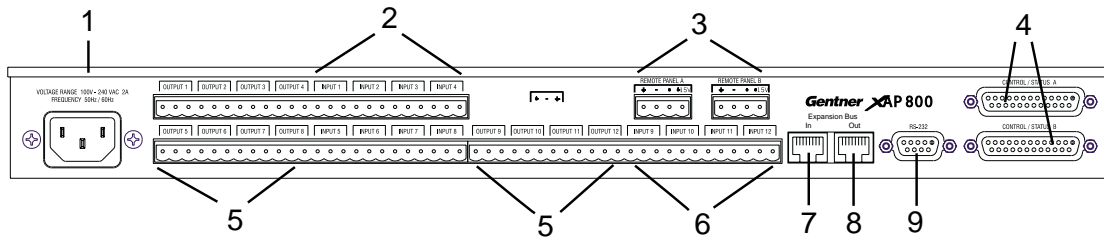

Figure 2. Rear Panel
**1. Power** This power module (see Figures 2 and 3) accommodates power ranging from 100–240VAC, 50/60Hz. The module uses an IEC-type connector. No switching is required.
**2. Inputs 1-8** These Phoenix™ block connectors (see Figures 2 and 4) are for connection of eight mic-level or line-level (selectable) inputs. These connectors are typically used for mics, but can be configured for use with VCRs, CD players, XAP TH1, etc. These inputs can be mixed in any gated or non-gated combination and routed to any of the 12 outputs. Default input level is -55dBu. For more information about input adjustments, see page 37. For electrical specifications, see Appendix A: Specifications.
**3. RS-485 Remote Panel A/B Port** These four-pin Phoenix connector ports (see Figures 2 and 5) allow you to control the XAP 800 with the Gentner Control Panel.
**4. Control/Status Ports A and B** These two female DB25 connectors (see Figures 2 and 6) are for connecting control devices to the XAP 800. The control devices have access to the command set for the XAP 800 and can be used for common functions such as volume control, muting, preset change, room combining, etc. Devices can be connected to either port.
**5. Outputs 1-12** These three-pin Phoenix connectors (see Figures 2, 7, and 8) is for connection of eight line-level balanced outputs with three-pin Phoenix connectors. These outputs are typically used for connection to
**6. Inputs 9-12** These Phoenix connectors (see Figures 2 and 9) are for connection of up to four line-level inputs. These are typically used for connection of VCRs, tape players, CD players, and other audio sources. They can be routed to any output or multiple outputs. Nominal level is 0dBu.
**7. Expansion Bus In** This RJ-45 connector (see Figures 2 and 10) is used for connecting additional XAP 800 units. The first XAP 800 unit in the local Expansion Bus network must have the EXPANSION BUS IN connector terminated with an Expansion Bus terminator. The first XAP 800's EXPANSION BUS OUT connector is attached to the EXPANSION BUS IN connector on the next XAP 800, forming a daisy-chain network. See the diagram on page 8.
**8. Expansion Bus Out** This RJ-45 connector (see Figures 2 and 10) is used for connecting additional XAP 800 units. The last XAP 800 in the local Expansion Bus network must have the EXPANSION BUS OUT connector terminated with an Expansion Bus terminator. The first XAP 800's EXPANSION BUS OUT connector is attached to the EXPANSION BUS IN connector on the next XAP 800, forming a daisy-chain network. See the diagram on page 8.
**9. RS-232** This female DB9 serial port (see Figures 2 and 11) is for interconnection between the XAP 800 and a PC, modem, or other custom remote controller. For serial protocol, see Appendix B: Connector Pinouts.
Begin by placing the XAP 800s in their proper locations. The Expansion Bus In and Expansion Bus Out RJ45 connectors (see Figure 2) on the back panels are designed for connecting multiple XAP 800 units. Expansion Bus connections between units are made in a daisy-chain fashion using category five twisted-pair cable.